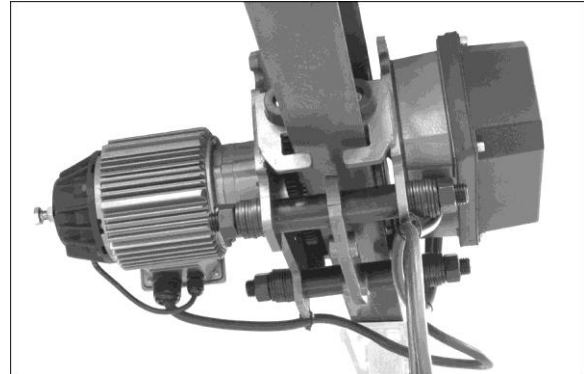

Figure 6-1
3. Loosely assemble side frames, position tubes, spacer washers and nuts on the stay bolts. See Figure 6-1.